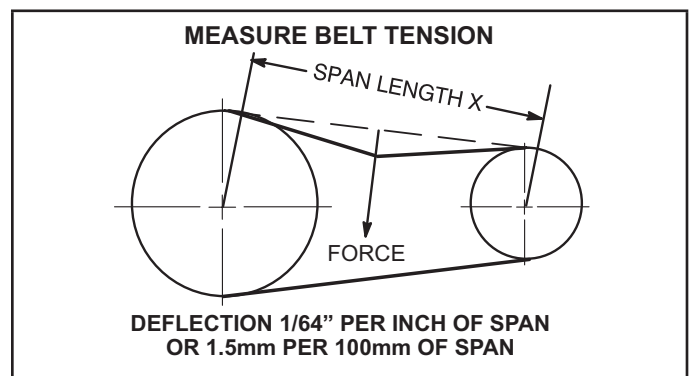

FIGURE 16
- 1 - Measure span length X. See FIGURE 16.